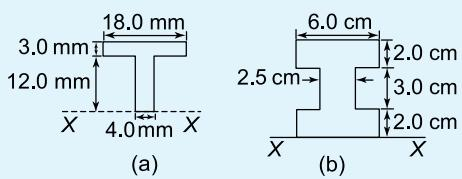

Figure 8.24
9. For the sections shown in Figure 8.24, find the second moment of area and the radius of gyration about axis XX.